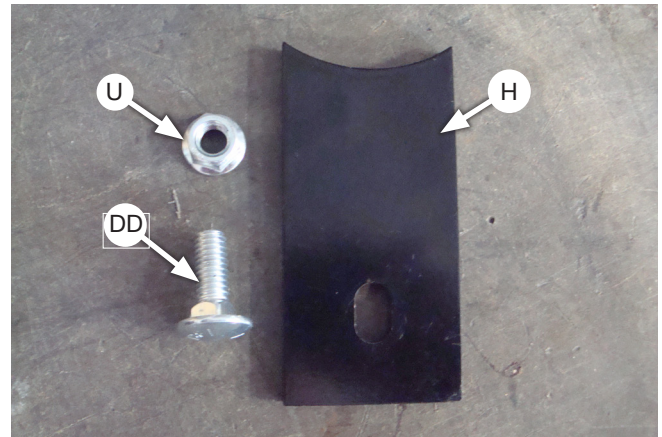
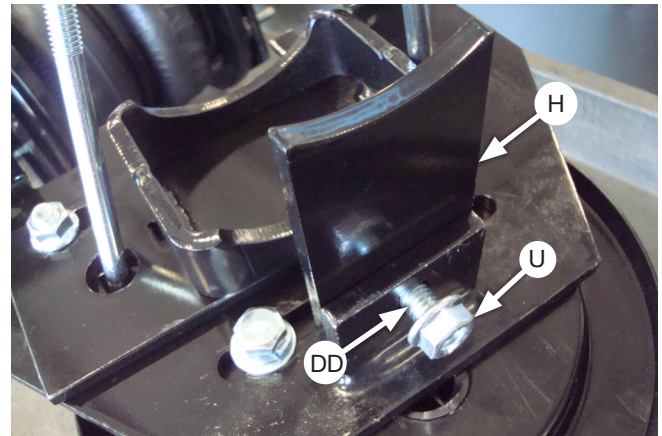

Fig. 15
Fig. 16
8. Attach the lower leg adapter (H) to the lower bracket using a 3/8"-16 x 1" carriage bolt (DD) and a 3/8" serrated flange lock nut (U) (Fig. 15). Install as shown in Fig. 16, pushing the adapter against the lower bracket and torquing the hardware to 16 lb.-ft. (14Nm).